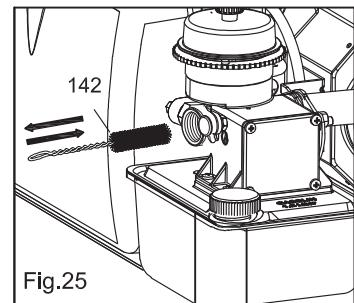

Fig.25
- f) Clean mixing chamber of carburettor (24) with brush (142). Take care not to damage the fuel atomizer nozzle. (Fig. 25)